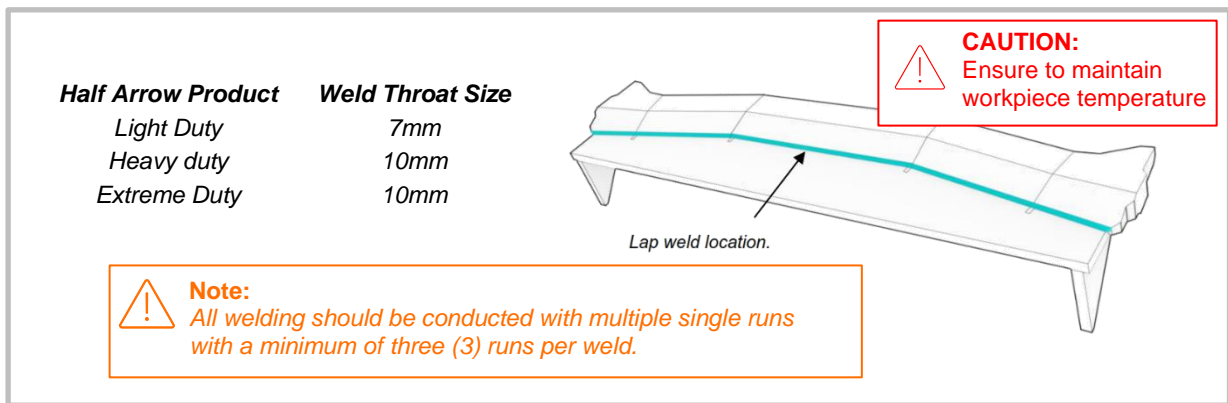

Figure 11 Bottom lip face lap weld (image is for reference purposes only).
Step 6 :Progressively lap fillet welds on the bottom face of the lip until the correct weld size indicated by the lip assembly drawing is achieved (Figure 11). If the drawing doesn't specify a weld size, refer to the weld size in table below.